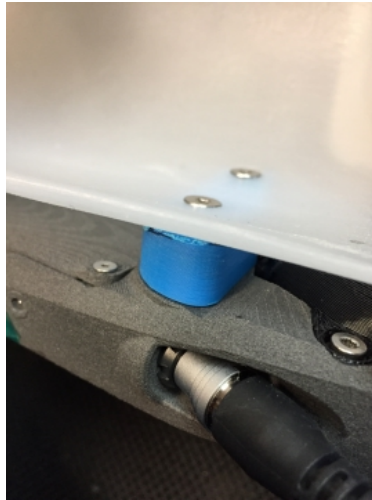

Figure 11 Spacer and Actuator
2. Remove the jig and Spacers from the sliding metal jig and attach the Spacers to the Actuator and KAFO Upper Shell with 4mm screws provided as in Figure 11.